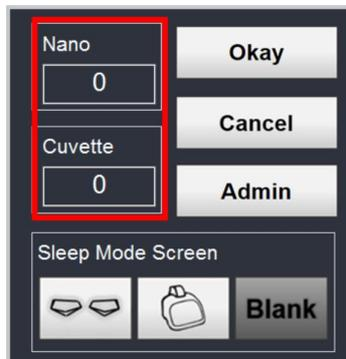

Fig. 3-31
2. Select the button “” at the left bottom corner to open the Calibration window (Fig. 3-31).
2. Select the button “” at the left bottom corner to open the Calibration panel (Fig. 3-31).